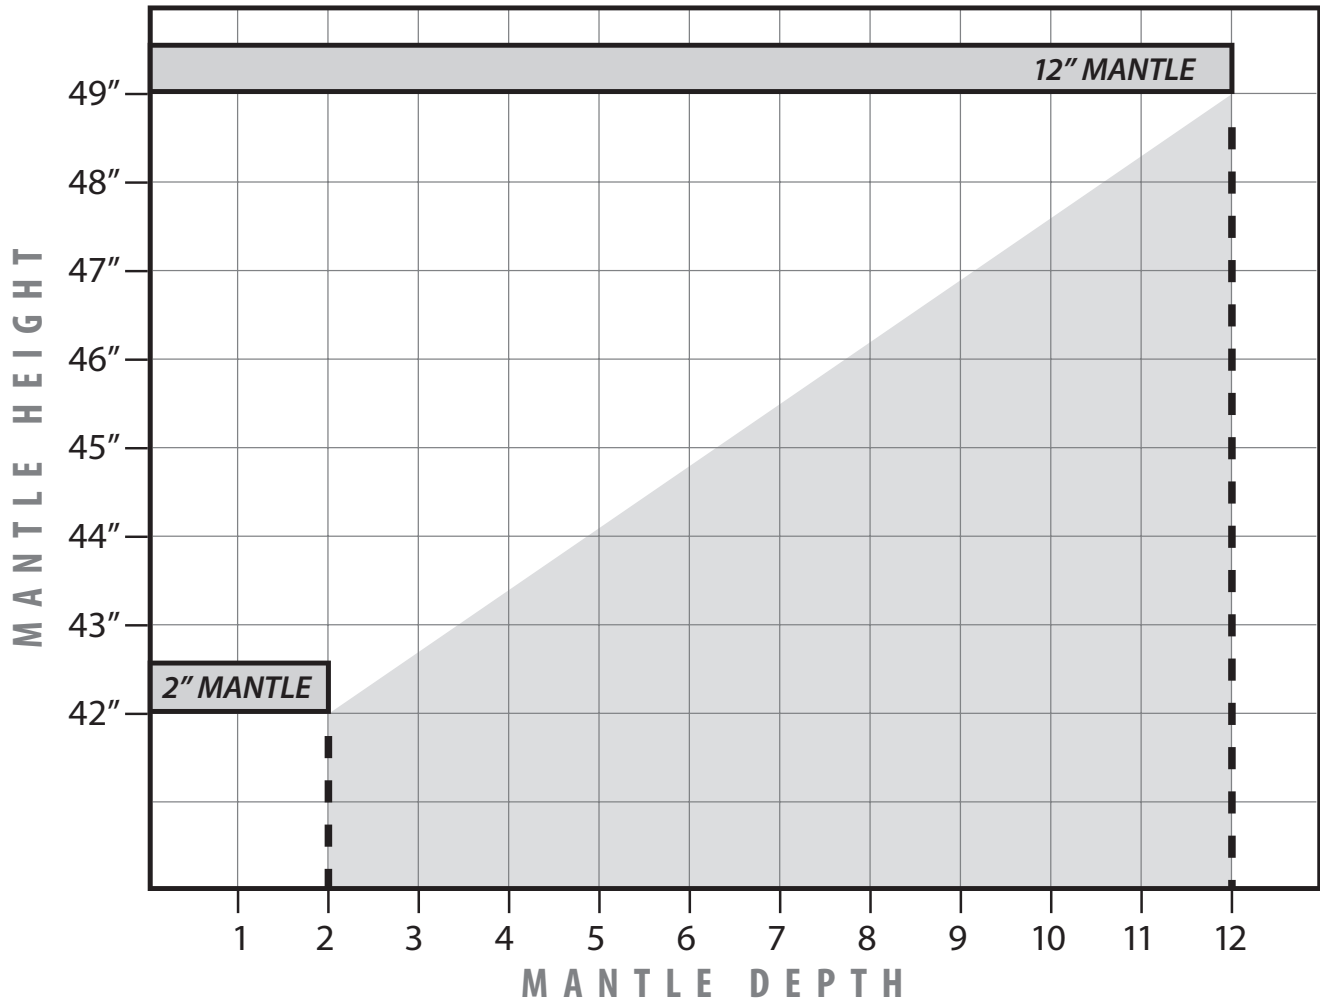

Figure 27. Mantle Clearances
**MANTLE:** It is not necessary to install a mantle, but if one is desired the guidelines as shown in Figure 27. Side mantle clearance should be no less then the distance from the top of the unit to the bottom on the top portion of the mantle.
The dimensions for installing a fireplace in the corner of a room are given in Figures 27. Refer to "INITIAL INSTALLATION - ALLOWABLE CO-AXIAL VENT CONFIGURATIONS" for allowable pipe lengths.